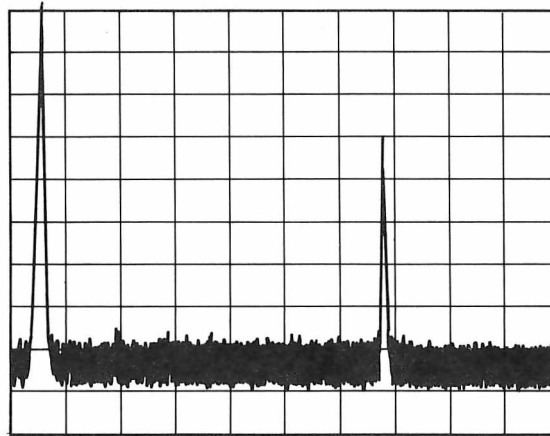

Figure 5-57. Squelching Displayed on Spectrum Analyzer
50. Using the STEP UP key on both the 8340A Under Test and the LO 8340A, step through Band 2 observing the spectrum analyzer display at each step. There may be responses due to mixing products. These will appear as low level signals. A squegging response will appear as a higher amplitude signal as shown in Figure 5-57. If squegging occurs, adjust A24R5 (X2C) slightly CCW to eliminate the squegging. Note, if the control is adjusted and there is no effect on the response, the response is probably a mixing product.